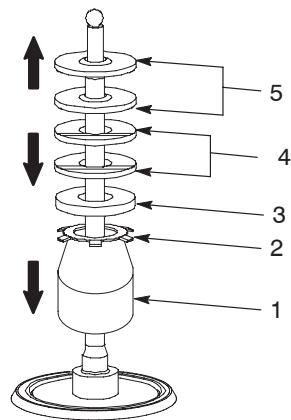

Figure 9-15 Assembling the seal tool, retaining ring, seal support disk, and hat seals on the needle-and-piston assembly
4. See Figure 9-15. Assemble the following onto the needle-and-piston assembly:
- seal tool (1)
- retaining ring with tangs down (2)
- upper seal support disk (3)
- two hat seals pointing toward the piston tool (4)
- two hat seals pointing toward the needle ball (5)